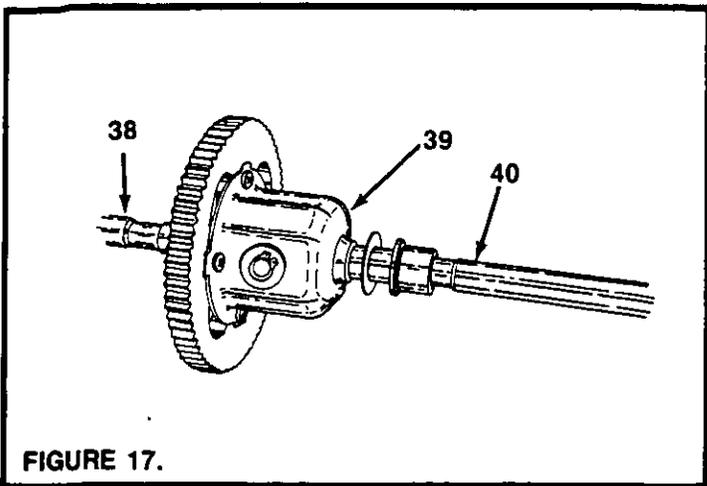

FIGURE 17.
15. Lift out the differential assembly and two axles. See figure 17.